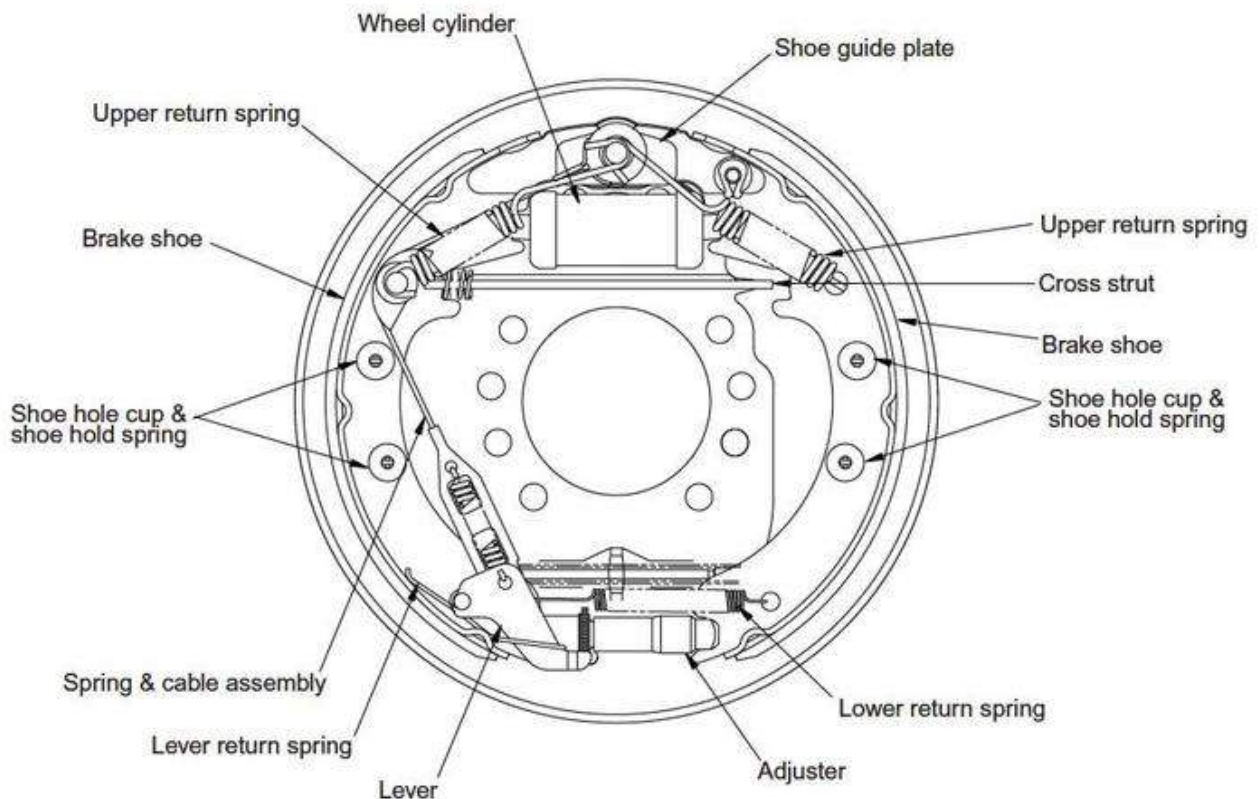

Figure 3. Brake Assembly
1. Place the forward shoe — the shoe with the parking brake lever — on the cylinder rods (Figure3).